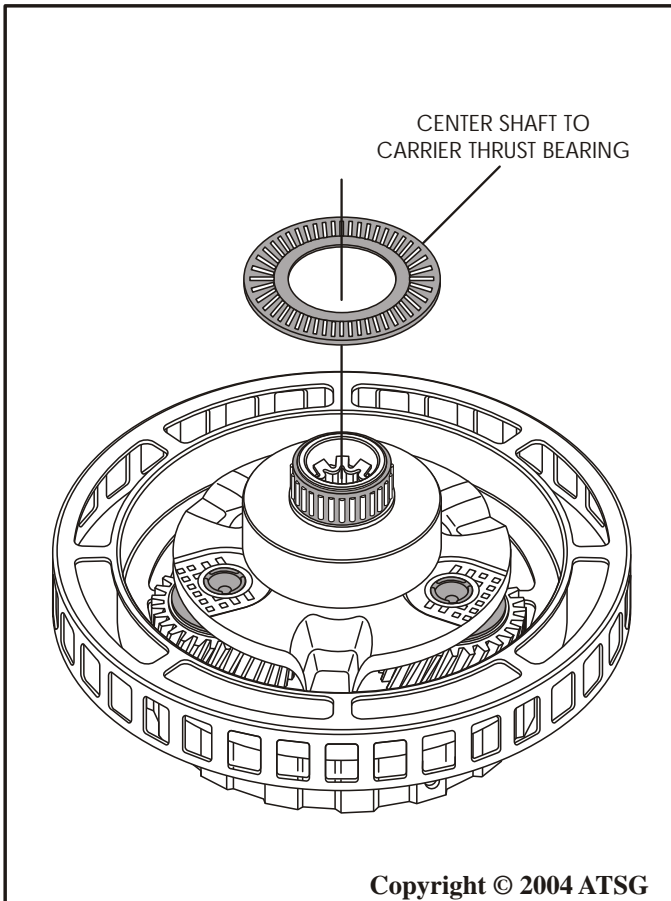

Figure 75
5. Install thrust bearing onto overdrive carrier, as shown in Figure 75, and retain with a small amount of Trans-Jel®.